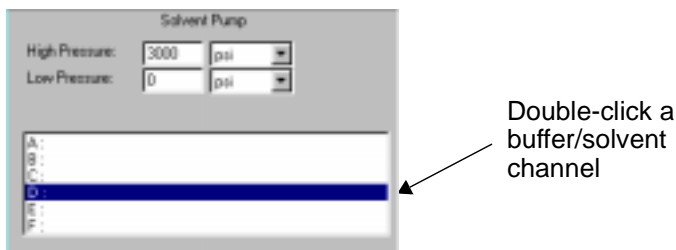

Figure 4-13 Buffer/Solvent Channels
2. Double-click any of the **buffer/solvent channels** (**A** through **F**) in the Solvent Pump section (Figure 4-13).